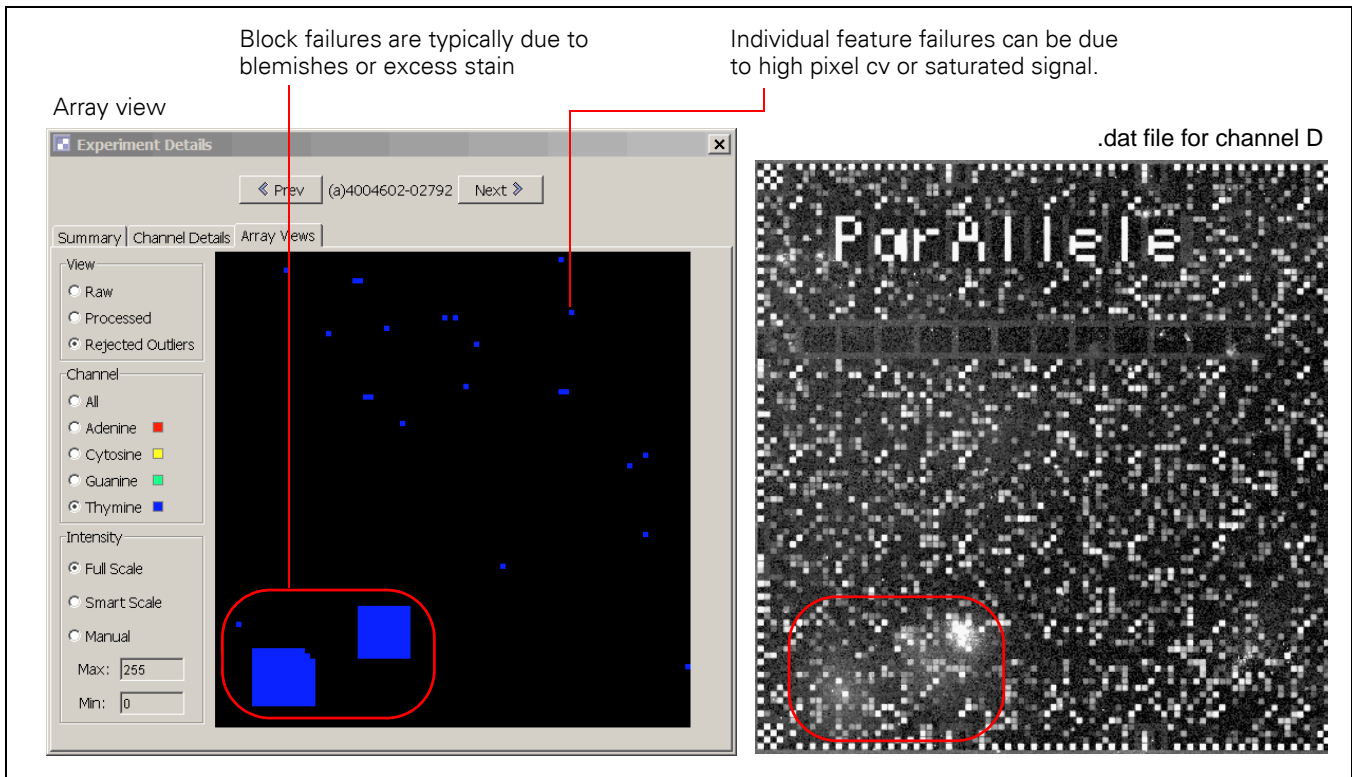

Figure 5.6 High Outlier Rate Caused by Excess Stain
- Areas of high or nonuniform baseline (Figure 5.6) caused by excess stain on the array.